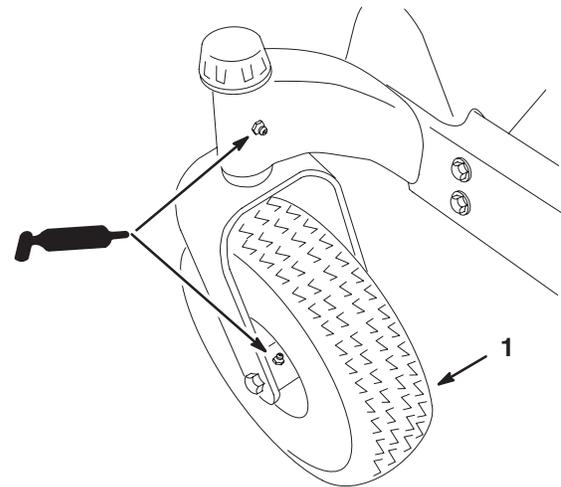

Figure 31
3. Grease the front caster pivot and drive wheels (Fig. 31).